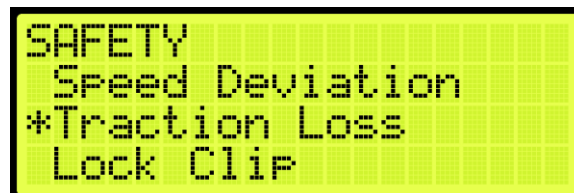

Figure 514: SAFETY Menu – Traction Loss
2. From the SAFETY menu, scroll and select Traction Loss (See Figure 514).